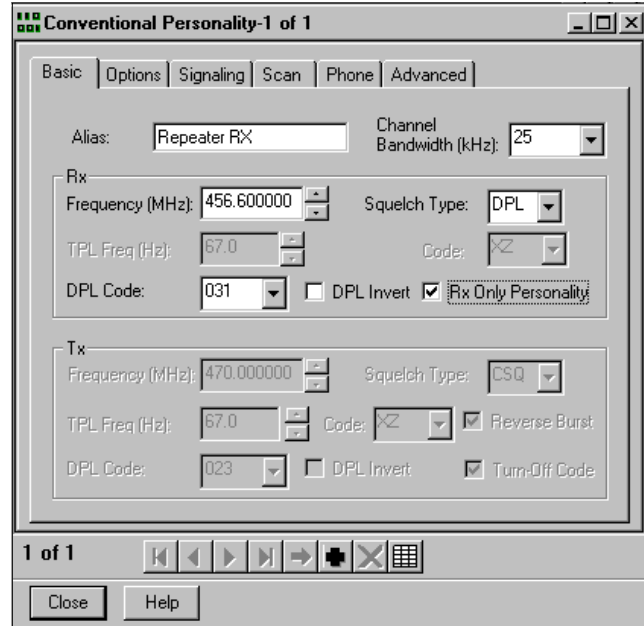

Figure 8-4. Conventional Personality, Basic, Receive Radio
18. Check the “Rx Only Personality” box. Your screen should appear similar to Figure 8-4.